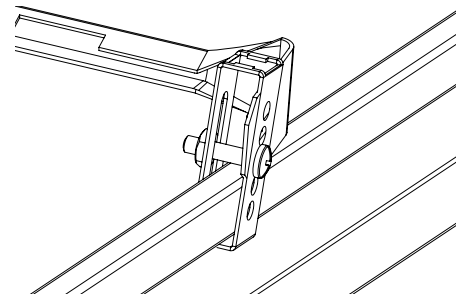

FIGURE 4
3. Attach luminaire securely to grid using brackets, screws and nuts provided or wiring to grid members. See Figure 4